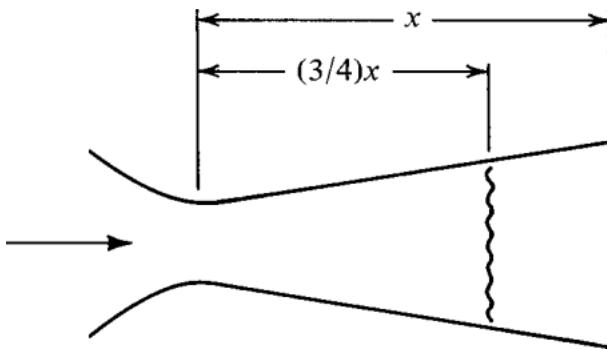

Figure P6.11
- 6.11** The diverging section of a supersonic nozzle is formed from the frustum of a cone. When operating at its third critical point with nitrogen, the exit Mach number is 2.6. Compute the operating pressure ratio that will locate a normal shock as shown in Figure P6.11.